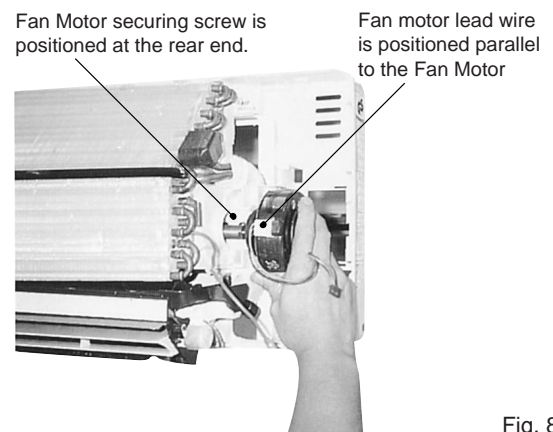

Fig. 8
4. To fix the Indoor Fan Motor, ensure that the Fan Motor securing screw is positioned at the rear end and the Fan Motor lead wire is positioned parallel to the Fan Motor. (Fig. 8)